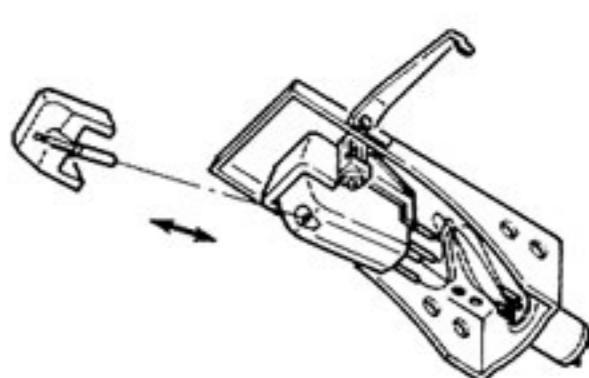

Fig.4.
1. As illustrated in Fig. 4, remove the old stylus by pulling it forward in the proper direction and securely insert a new one into the same hole. (Be careful not to touch the stylus and oscillator system.)